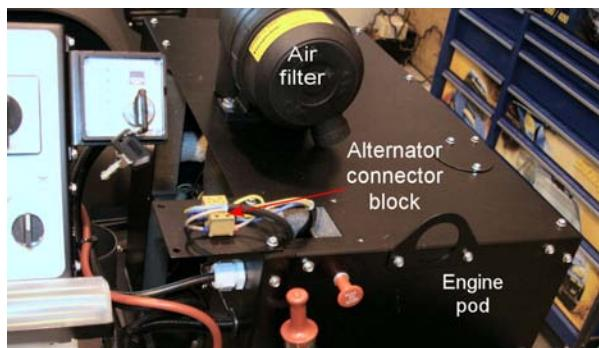

Fig 5-12 Alternator connector block
- Disconnect the lead to the alternator from the terminal block attached to the underside of the plate on the top corner of the engine pod (Fig 5-12) and extract the lead from the engine pod.